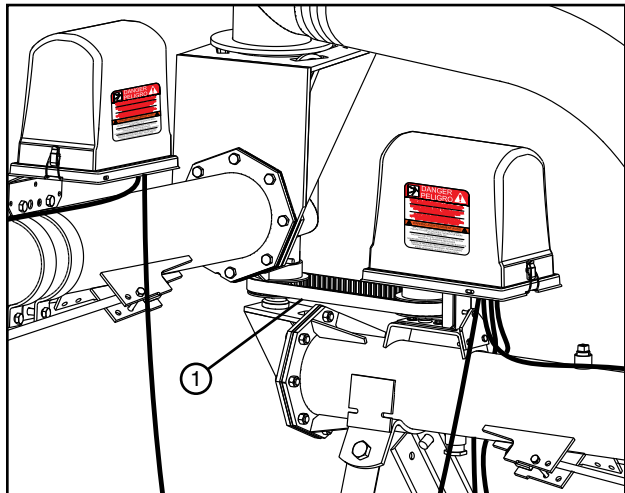

Figure 26-1 1. Alignment Belt
If the 6 in hose is sufficiently weather-cracked, checked, or leaking, replace the hose. Follow the steps below to replace the 6 in hose. See figure 26-1.
3. Loosen the hose clamps. See figure 26-1.
7. Tighten the hose clamps. See figure 26-1.